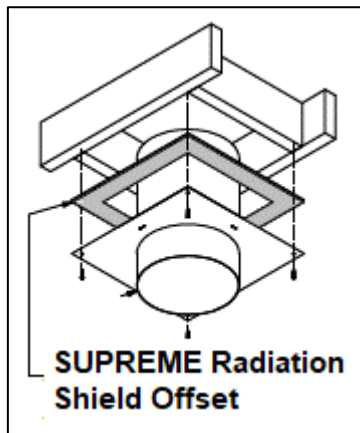

Figure 2-10: SUPREME Radiation Shield Offset
The SUPREME Radiation Shield Offset is a standard component for the Elegance 42 fireplace (Figure 2-10). Prior to installing the chimney manufacturer's radiation shield, the SUPREME Radiation Shield Offset is fastened below the chimney opening within the chase, with the flanges along the component providing a 1/2" offset.
2. For an installation with the chimney running through the ceiling, install the SUPREME Radiation Shield Offset below the chimney opening prior to installing the radiation shield (refer to Figures 2-10 and 3-7).